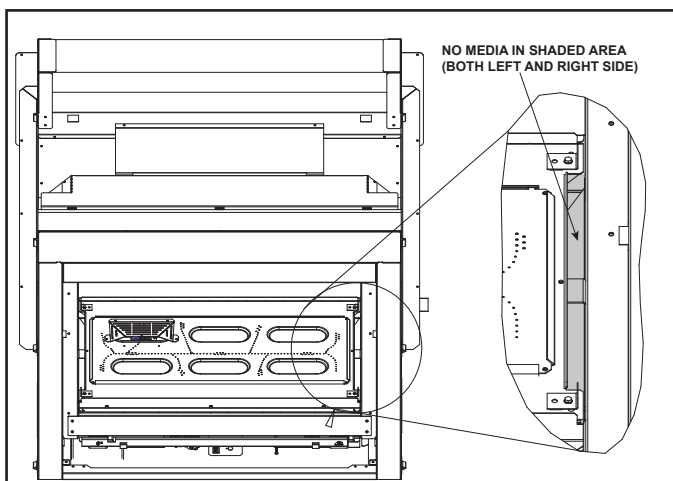

Figure 9.4 No Glass Rock Media in Gap
1. Place glass rock media evenly on base pan and over top of burner. Do not block the open area by the glass refractory. This area must remain open for proper air flow. See Figure 9.4.
**NOTICE:** Care should be taken to avoid placing glass rock media between the left and right of the media tray and the firebox. Blocking this gap may cause an undesirable flame appearance. See Figure 9.4.